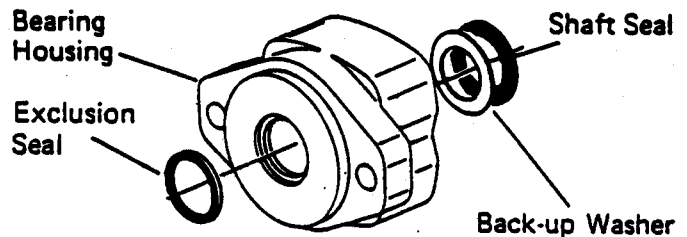

Figure 15.
- 20 Use a small screwdriver to remove shaft seal, back-up washer and exclusion seal from bearing housing, see Fig. 15. Do not damage bore of housing.